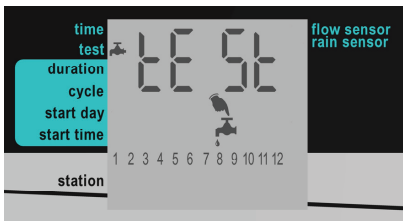

Figure 13: Test Screen
1. Press **↵** until the Test screen is displayed (Figure 13).